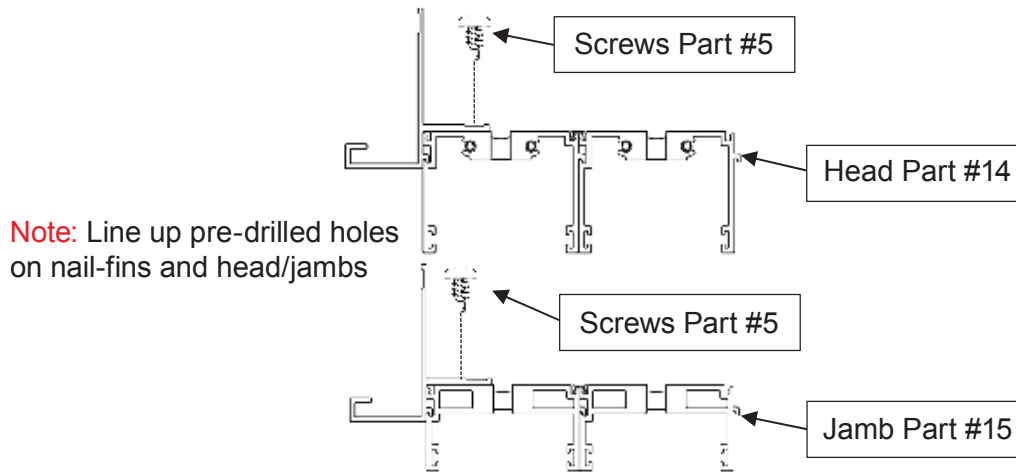

FIGURE 1
14. Apply sealant to the backside of the 2 Nail-Fin Corner Adapters (Part #11) and install the brackets at upper corners of the frame as shown in Figure 1.